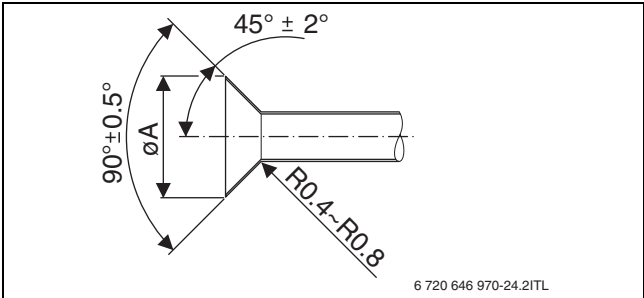

Fig. 30 Flaring refrigerant pipes
- Flare the pipes for liquid and gaseous refrigerant (→ Fig. 30 and table 8).